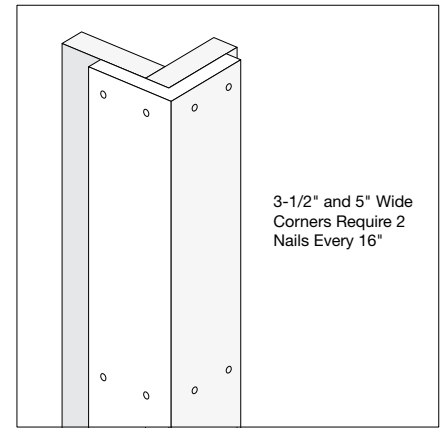

**Fig. 9**
- KLEERLok products feature a nailing flange for easier concealed fastening. Fasten KLEERLok through the nailing flange every 12" at each framing member using siding or 15 gauge finish nails (**Fig. 9**).